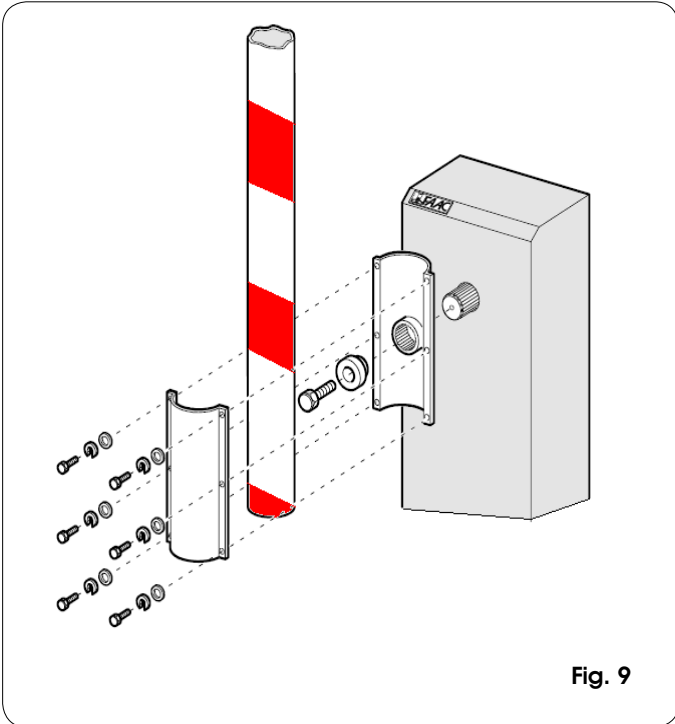
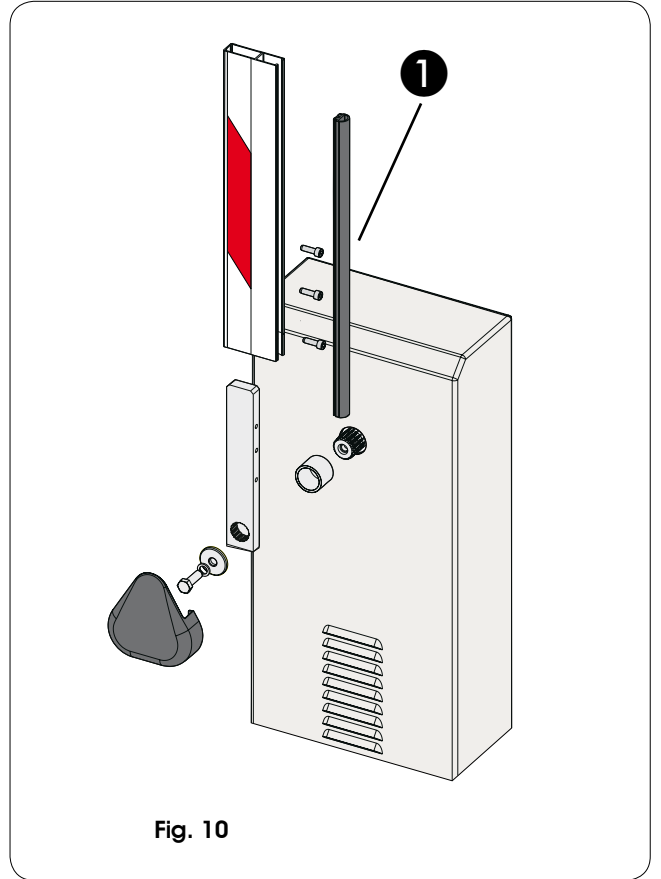

Fig. 9
Fig. 10
- 4) Assemble the beam, using the supplied screws, as shown in figures 9, 10 and 11 (the rubber profile of the rectangular beam must face the closing direction (Fig 10) Ref 1.
2. Position the beam in the opening position and remove it from the pocket as shown in Figs. 9, 10 or 11 .